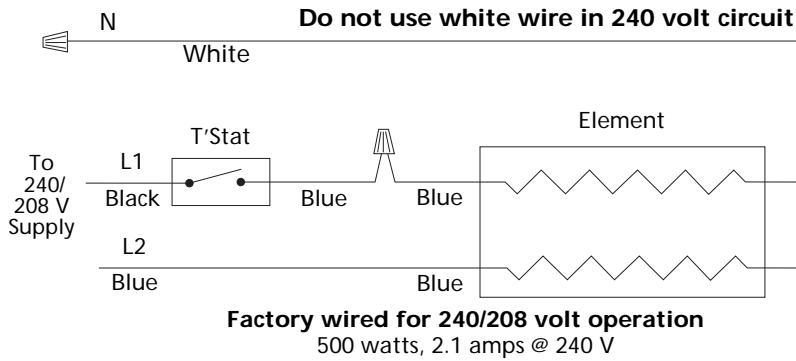

Figure 3
3. To operate the heater at 208 through 240 volts, connect power supply wiring to heater wiring following the wiring diagram shown in Figure 3. DO NOT USE THE WHITE WIRE MARKED "N" FOR WIRING TO 208 THROUGH 240 VOLTS.